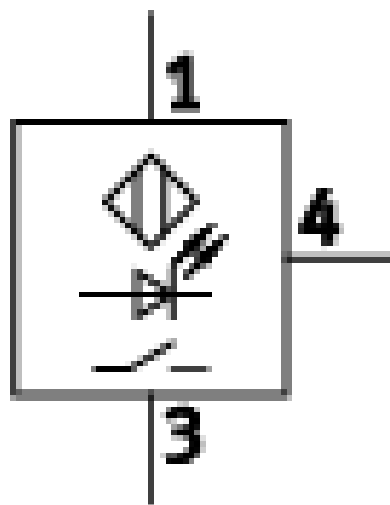

Figure 2.11: An Optical Proximity Sensor and its Symbol.
- **Symbol:** The symbol in Figure 2.11 indicates light transmission and reception.